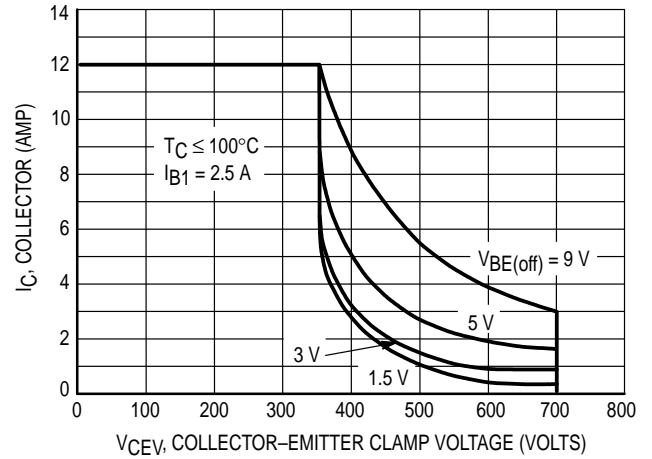
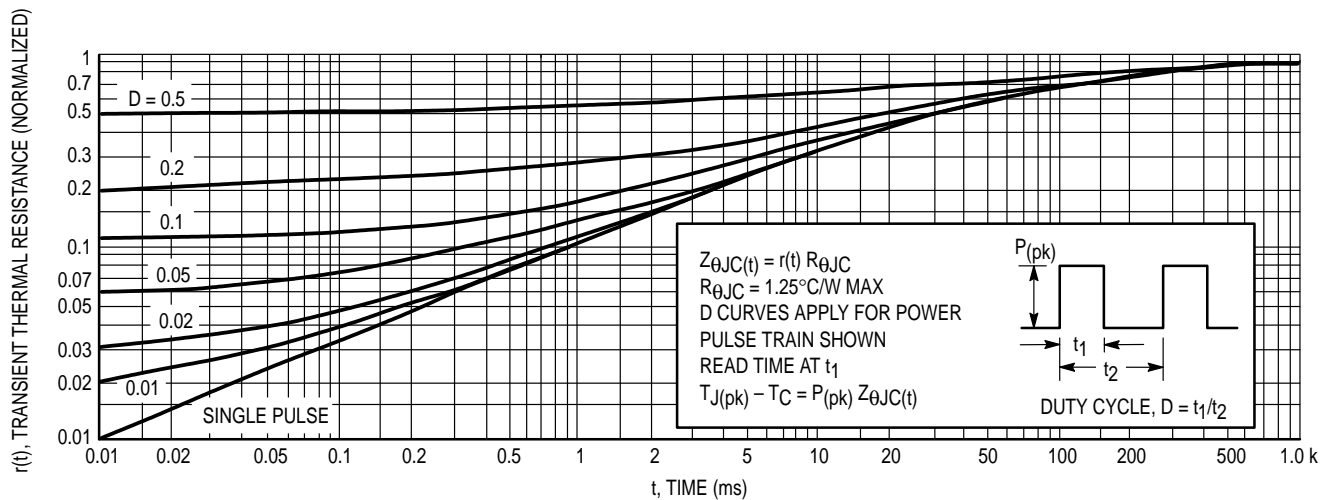

Figure 2. Reverse Bias Switching Safe Operating Area
Figure 4. Typical Thermal Response [$Z_{\theta JC}(t)$]
$T_{J(pk)}$ may be calculated from the data in Figure 4. At high case temperatures, thermal limitations will reduce the power that can be handled to values less than the limitations imposed by second breakdown. Use of reverse biased safe operating area data (Figure 2) is discussed in the applications information section.
For inductive loads, high voltage and current must be sustained simultaneously during turn-off, in most cases, with the base to emitter junction reverse biased. Under these conditions the collector voltage must be held to a safe level at or below a specific value of collector current. This can be accomplished by several means such as active clamping, RC snubbing, load line shaping, etc. The safe level for these devices is specified as a Reverse Bias Safe Operating Area (Figure 2) which represents voltage-current conditions that can be sustained during reverse biased turn-off. This rating is verified under clamped conditions so that the device is never subjected to an avalanche mode.
- (3) The base drive conditions are within the specified limits shown on the Reverse Bias SOA curve (Figure 2).